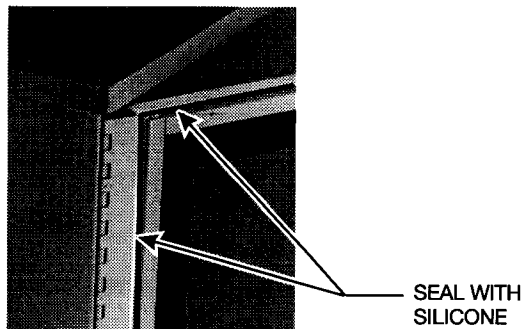

Figure 10
1. On the door exterior, neatly seal around the grey extrusions with silicone. Do the same on the seam where the hinge attaches to the door seal inside and out. **See Figures 10 and 11.**